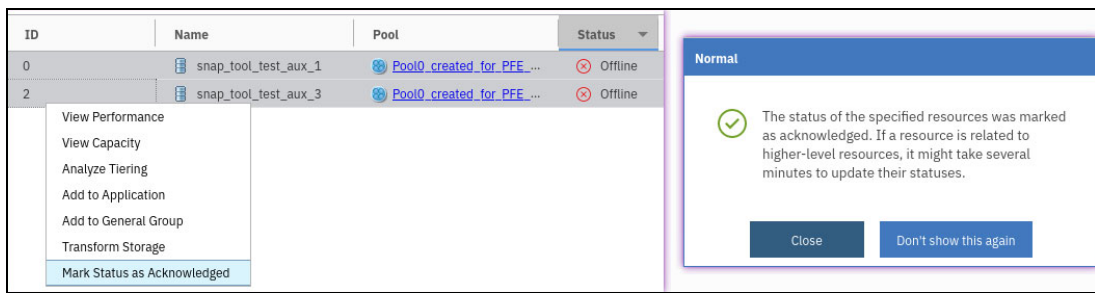

Figure 9-78 Marking the status as acknowledged
In this specific case, the offline state is expected because the volumes are auxiliary volumes of *inconsistent stopped* Global Mirror (GM) relationships. Therefore, the status can be marked as *acknowledged*, as shown in Figure 9-78.